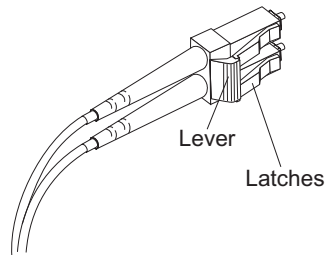

Figure 37. LC-LC fibre-channel cable lever and latches
1. On the end of the LC-LC cable that connects into the SFP module or host bus adapter, press down and hold the lever to release the latches, as shown in Figure 37.